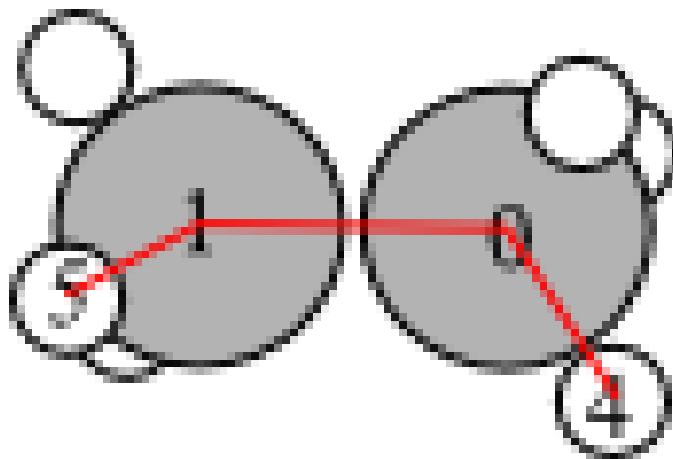

Figure 9: Schematic of the calculated ethane dihedral angle.
**Dihedral angles** There is support in ase for computing dihedral angles. **Lets** illustrate that for ethane. We will compute the dihedral angle between atoms 5, 1, 0, and 4. That is a H-C-C-H dihedral angle, and one can visually see (although not here) that these atoms have dihedral angle of 60°. See Figure 9.